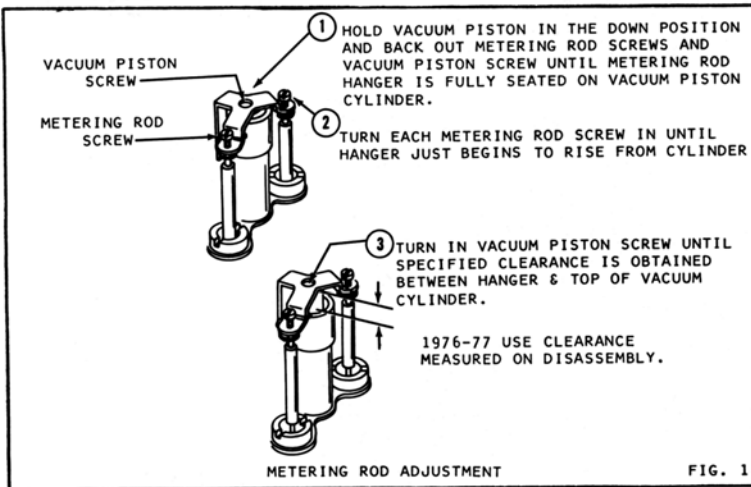

FIG. 1
1976-78 BEFORE REMOVAL OF VACUUM PISTON & METERING ROD ASSY. (43). PRESS DOWN LIGHTLY AND MEASURE THE CLEARANCE BETWEEN THE HANGER AND TOP OF VACUUM CYLINDER (SEE FIG. 1.) IDLE LIMITER CAPS CAN BE REMOVED BY INSTALLING A SHEET METAL SCREW IN THE CENTER OF CAP AND TURNING CLOCKWISE. ALL CARBURETORS DO NOT HAVE AN ALTITUDE COMPENSATION ASSEMBLY. UNIT IS FACTORY ADJUSTED AND NO SERVICE ADJUSTMENT IS PERMITTED. POPPET VALVE ASSEMBLY (5) CAN BE CLEANED.